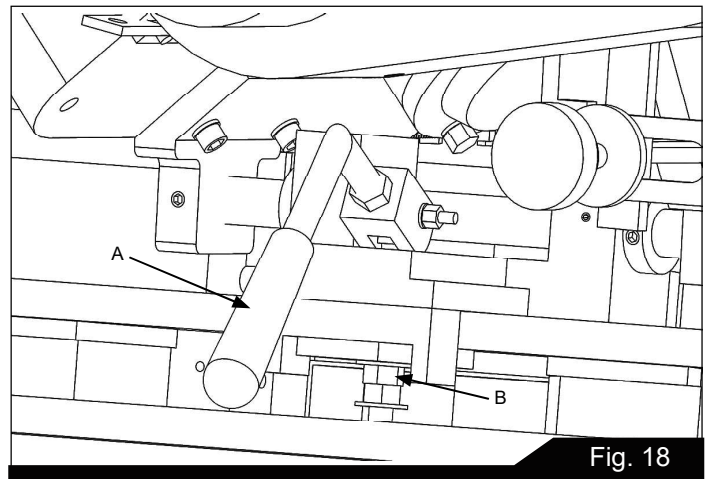
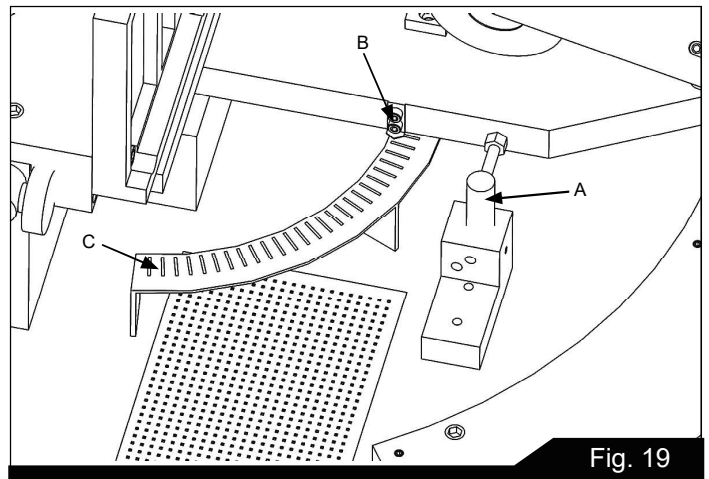

Fig. 18
Fig. 19
In order to use the mitering function of this saw, first you must release the tension on lever (A) Fig. 18 by pulling the lever up. Then remove the 90 deg pin (A) Fig. 19 to allow the frame to swing. Set the indicator (B) Fig. 19 to the desired angle on the scale (C) Fig. 19. After the proper angle has been set, push the lever down to hold the saw in place. If the lever does not adequately hold the saw, the tension can be adjusted by tightening the bolt (B) under the lever.